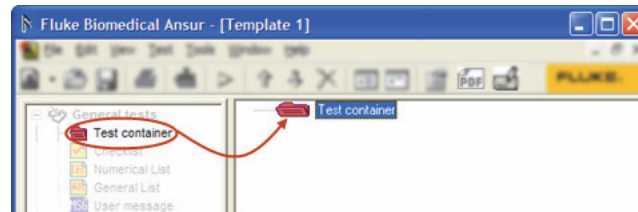

Figure 3-21. Creating A Test Container
- Without releasing the mouse button, drag the test element onto the blank test template as shown in Figure 3-21.